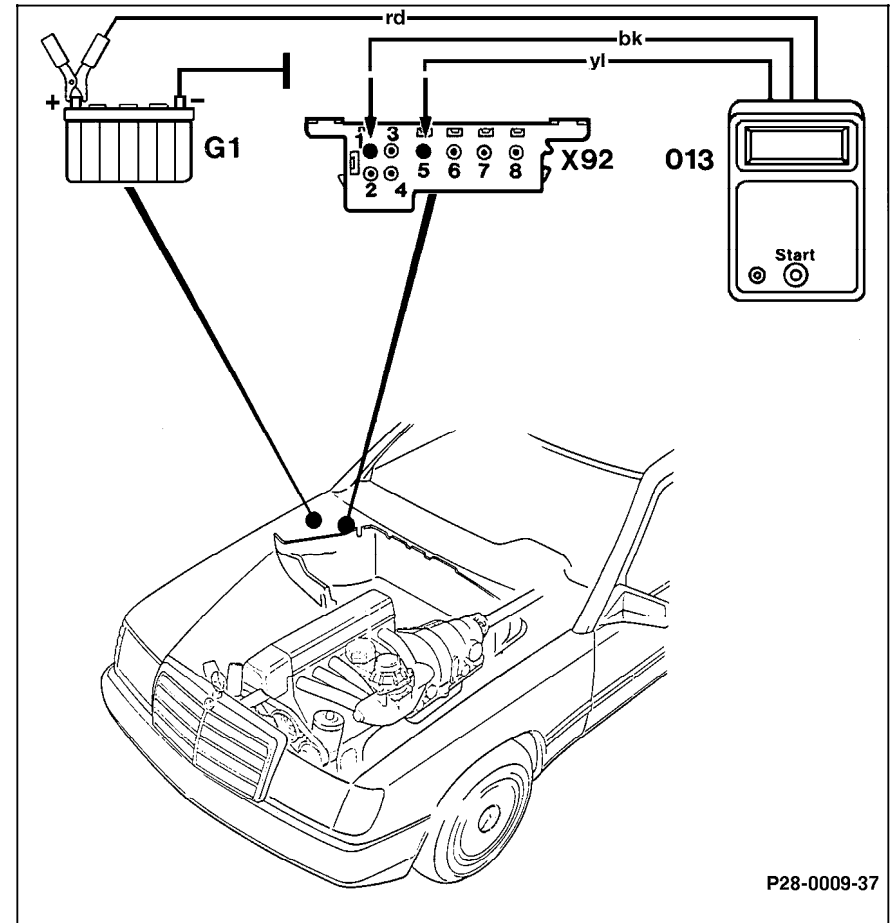

Figure 1
1. Connect impulse counter scan tool to data link connector (X11/4) as shown in Figure 1.